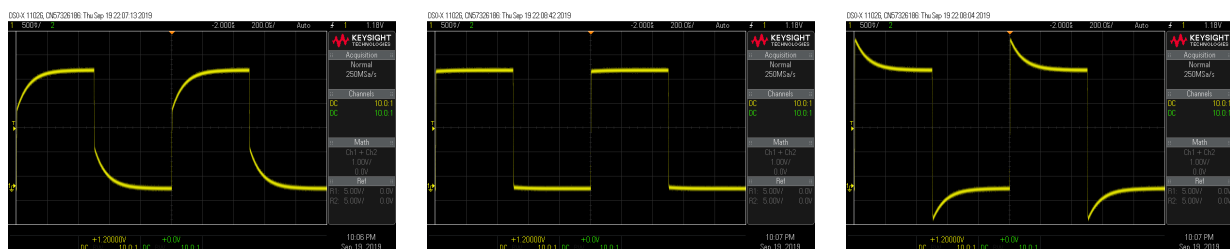

Figure 5: Square waves from probes with different compensations. From left to right: over-compensated, well-compensated, under-compensated.
4. Measure two instances of the time constant,  $\tau$ —one when the oscilloscope probe is fully under-compensated and one when the oscilloscope probe is full over-compensated. The oscilloscope waveforms should appear similar to those shown in Figure 5.
As you can see in Figure 5, when compensating the probe using the oscilloscope's reference signal, you can have either overshoot or undershoot on the square wave. You can attach the probe tip to the probe compensation terminal and connect the probe to an input of the scope. Viewing the square wave reference signal, make the proper adjustments on the probe using a small screw driver so that the square waves on the scope screen look square. What you are adjusting is a variable capacitor at the tip of the probe. If low-frequency adjustment is not properly made, this will result in high-frequency inaccuracies in your measurements. It's very important to make sure this compensation capacitor is correctly adjusted.